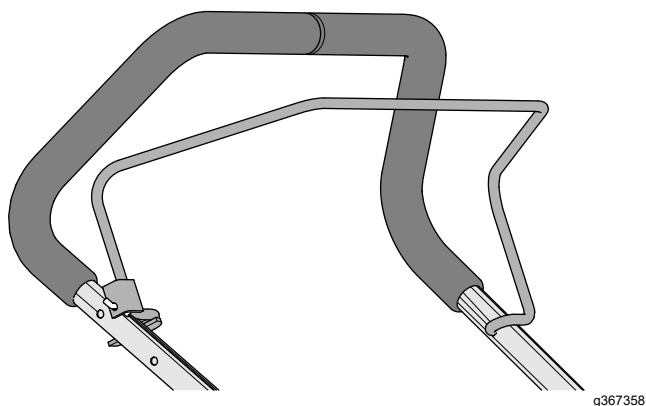

Figure 11
3. Insert the end of the operator-presence bail into the handlebar, squeeze the other leg of bail slightly, and insert the bail into the handlebar (Figure 11).